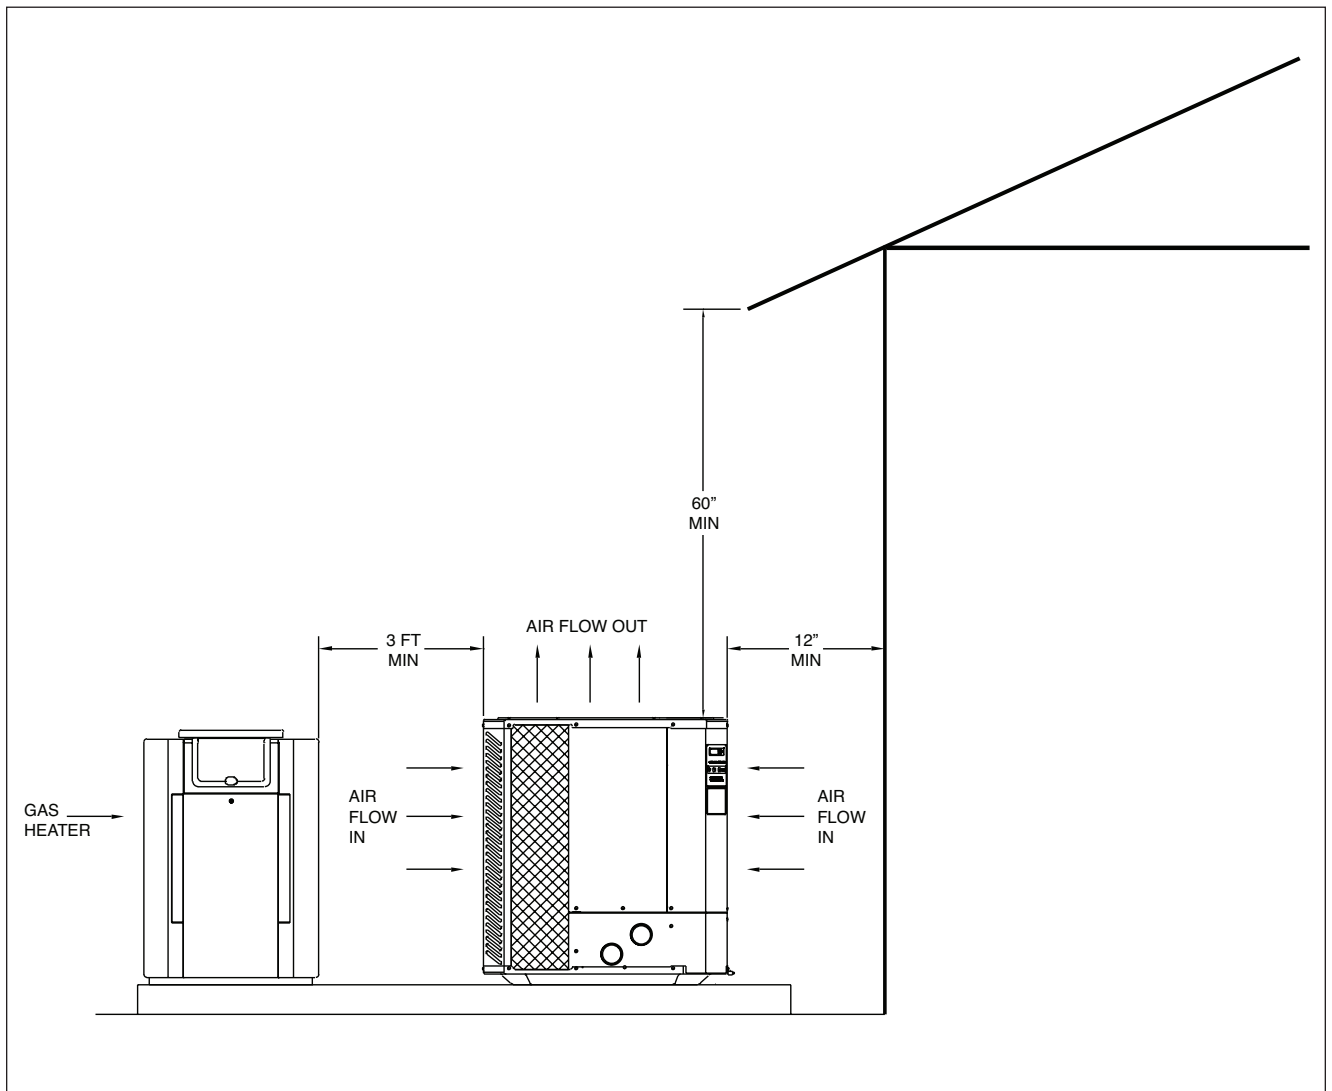

Fig. 1: Installation Clearances
Changes to: Fig. 1 on page 7, Tables A & B on page 9, phone number on page 12, Fig. 6 on page 17, Fig. 7 on page 18
- This unit features an 'up-flow' discharge for quiet operation. Air is pulled up through the evaporator coil and discharged through the top grill. Allow at least 5 ft (1.5 m) clearance above the unit for unrestricted air discharge. **DO NOT** install the unit under a porch or deck. Refer to Fig. 1.